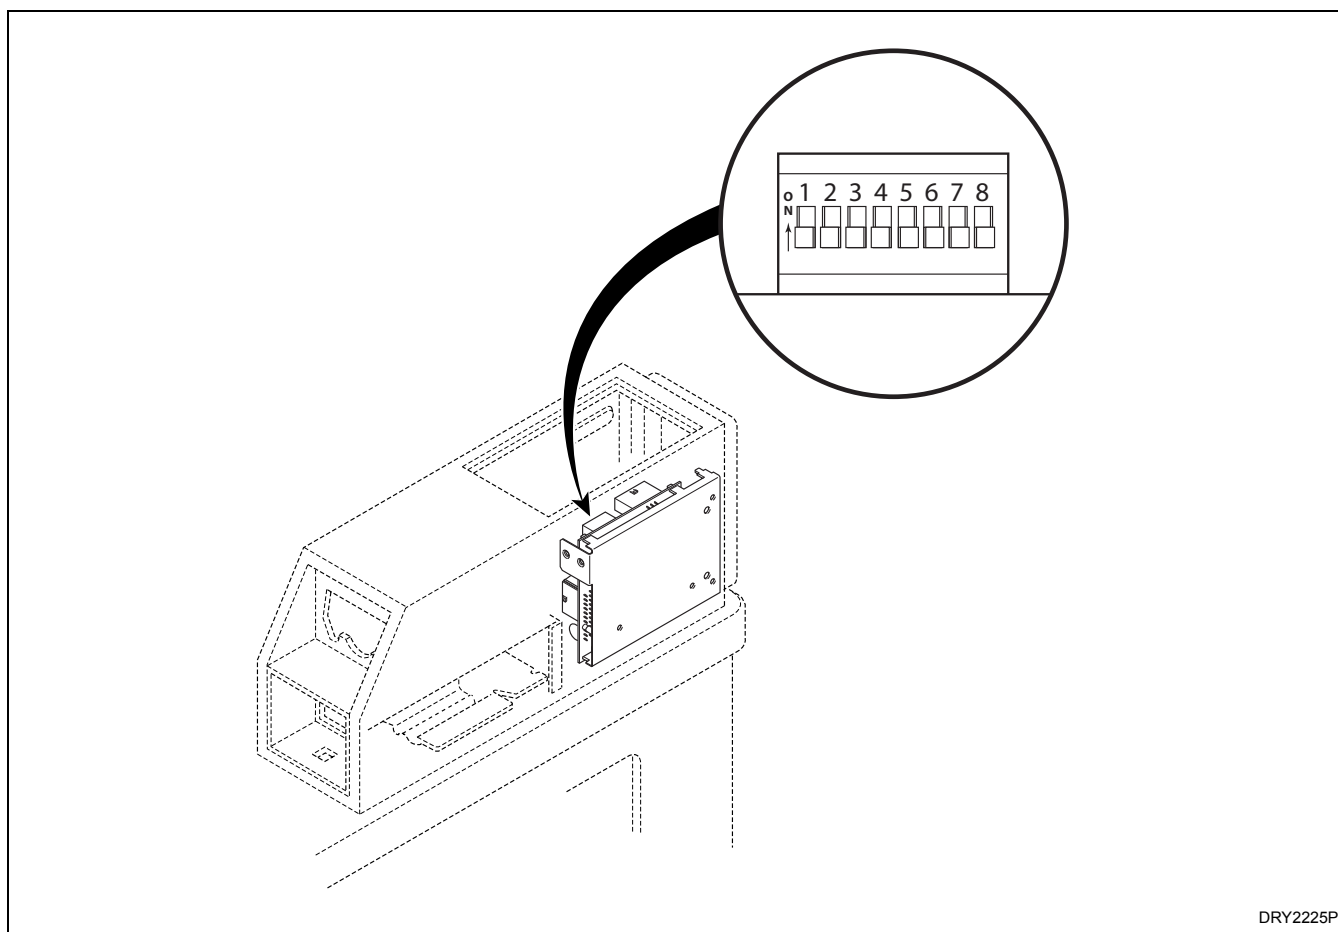

Figure 24
2. Record the machine control dipswitch settings. Then set them all to the off position. Refer to *Figure 24*.